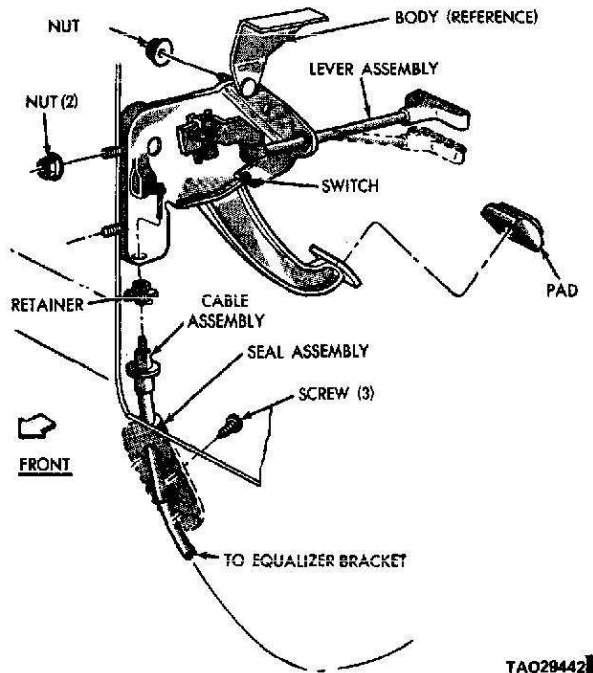

Figure 2-86. Front Cable and Parking Brake Assembly.
a. General Information. The rear wheel brakes also act as the parking brake. The rear brake shoes are operated by levers and struts that are connected to a flexible steel cable. The wheel brake cables are joined together by an equalizer and a front cable which extends to the parking brake pedal (figure 2-86).
Refer to figure 2-86.